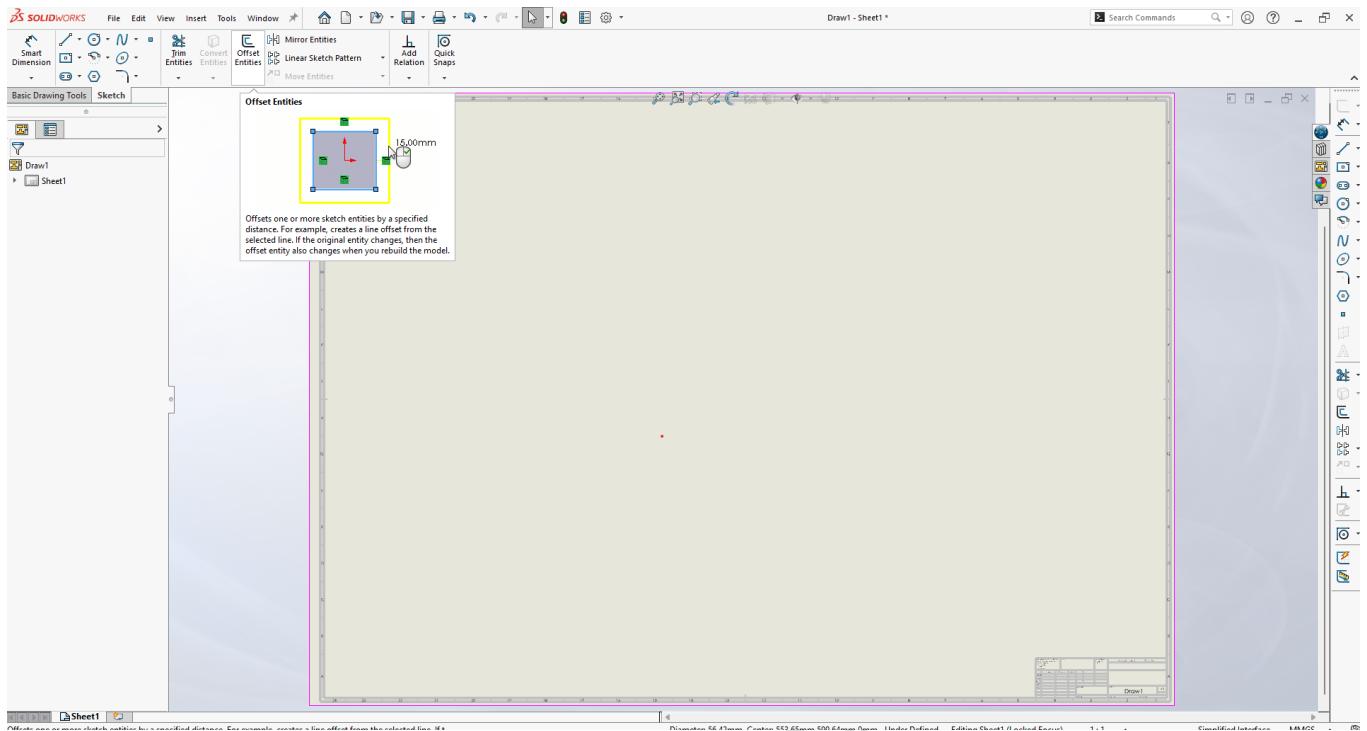
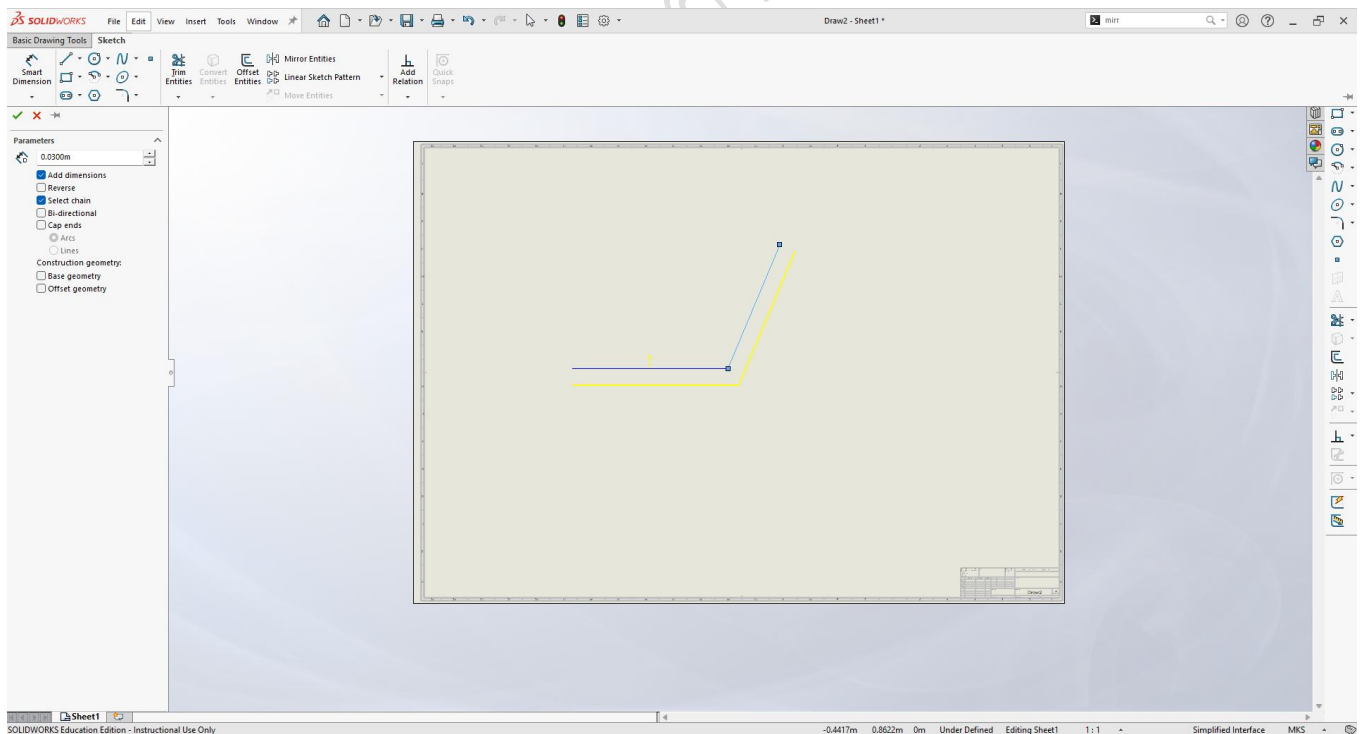

Figure 2.38: Location of Offset Tool
Figure 2.39: Offset Command
6. Offset Entities: Creates a parallel copy of a sketch at a fixed distance (Figure 2.38 and Figure 2.39). Useful for making wall thickness or layering shapes.